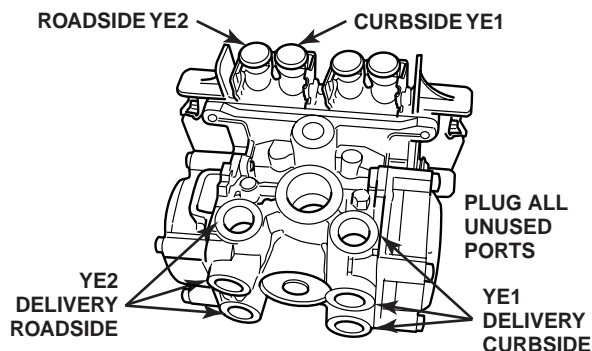

Figure 2-29: Valve Mounted with Sensors Facing Rear of Trailer
- If the ECU/dual modulator valve assembly is mounted with the sensors facing the **rear** of the trailer, the air lines for the three delivery ports located under the YE2 sensor connector must be routed to **roadside**; the air lines for the three delivery ports on the opposite side of the valve must be routed to **curbside**. See Figure 2-29.